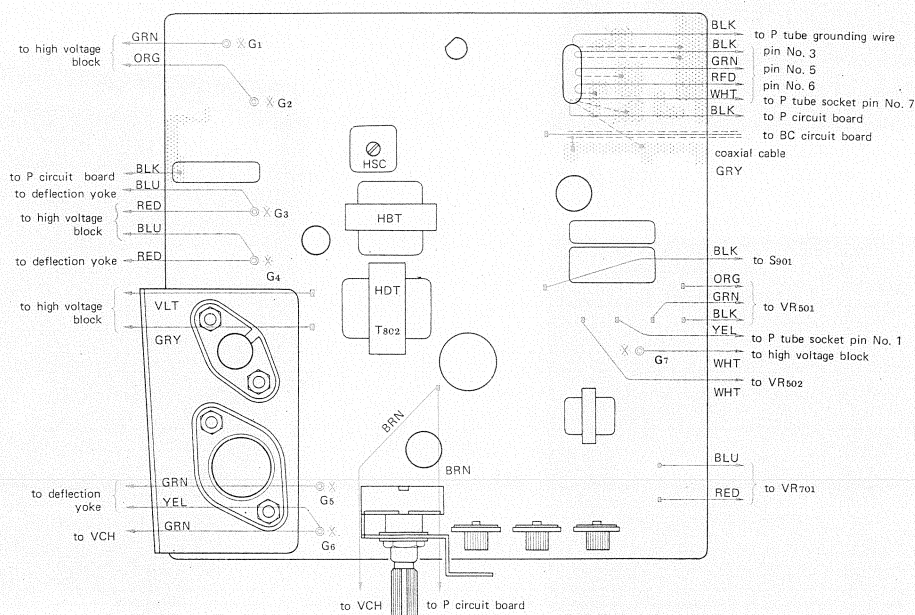

Fig. 2-9
3. Pull off the seven pin-plugs labeled G1-G7 in Fig. 2-9.